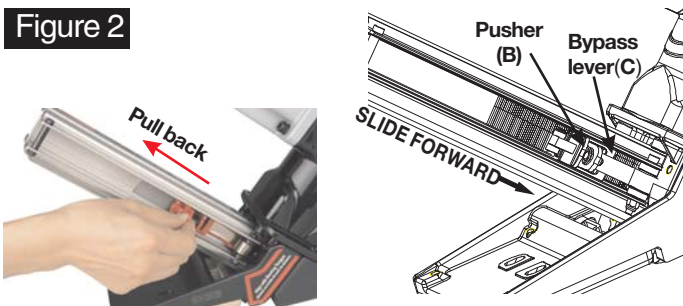

Figure 3
3. This tool uses a spring loaded bypass lever in order to load and upload the nails. Once the nails are properly inserted, pull the pusher (B) completely back, pressing against the bypass lever (C) of the pusher. (See figure 3)